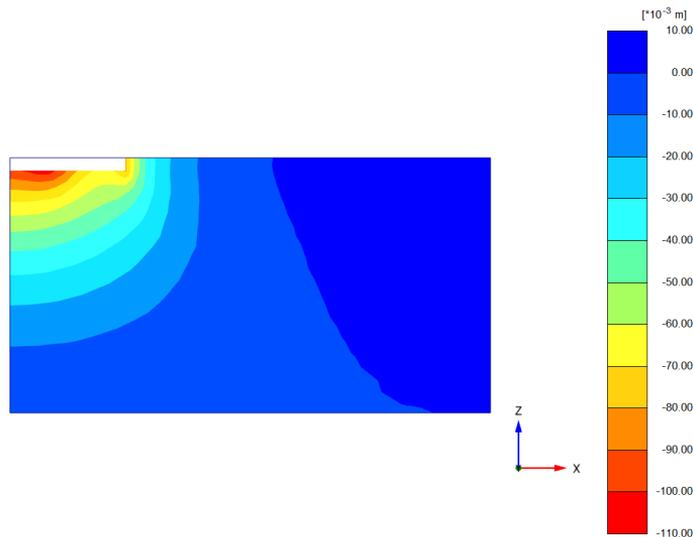

Figure 1.19 Cross section showing the total vertical displacement
- Enter (0.0 6.0) and (75.0 6.0) as the coordinates of the first point (A) and the second point (A') respectively in the *Cross section points* window.
- Select *Total displacements* → u_z from the *Deformations* menu (Figure 1.19). The maximum and minimum values of the vertical displacements are shown in the caption. If the title is not visible, select this option from the *View* menu.